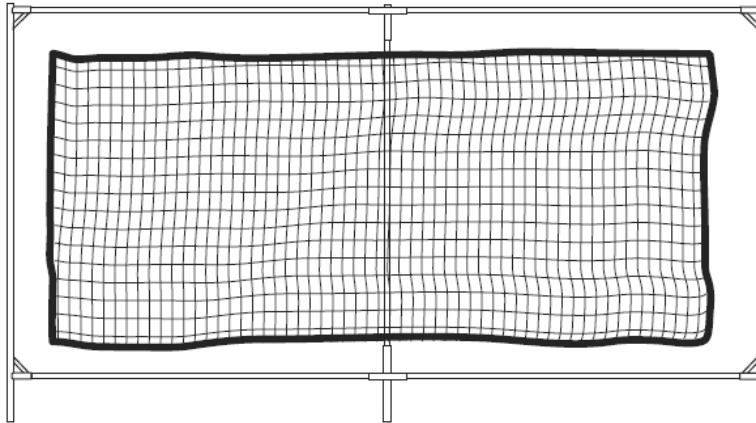

Figure 1
5. Spread the net out in the center of the frame then connect each of the corners using two bungee cords in each corner, shown in Figure 1.